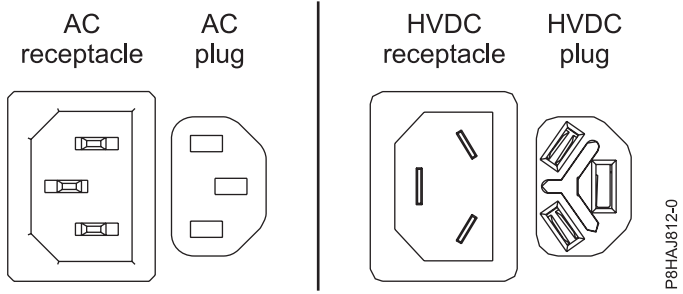
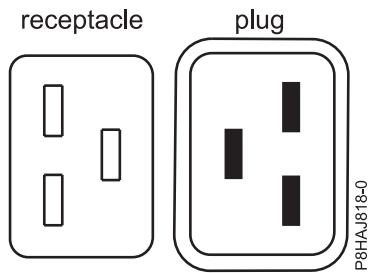
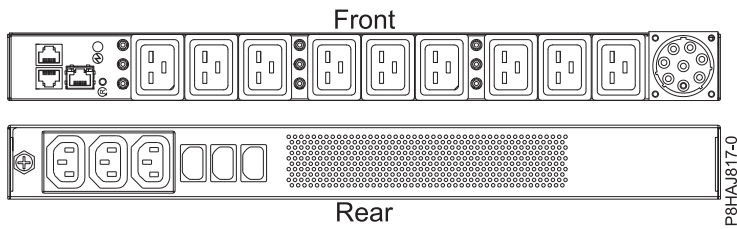

Figure 117. AC and HVDC connectors
Figure 118. Connectors for the 8408-44E system
Figure 119. PDU for the 8408-44E system
Figure 117 on page 143 shows the supported alternate current (AC) and high voltage direct current (HVDC) connectors. Figure 118 on page 143 and Figure 119 on page 143 show the supported connectors and power distribution unit (PDU) for 8408-44E.